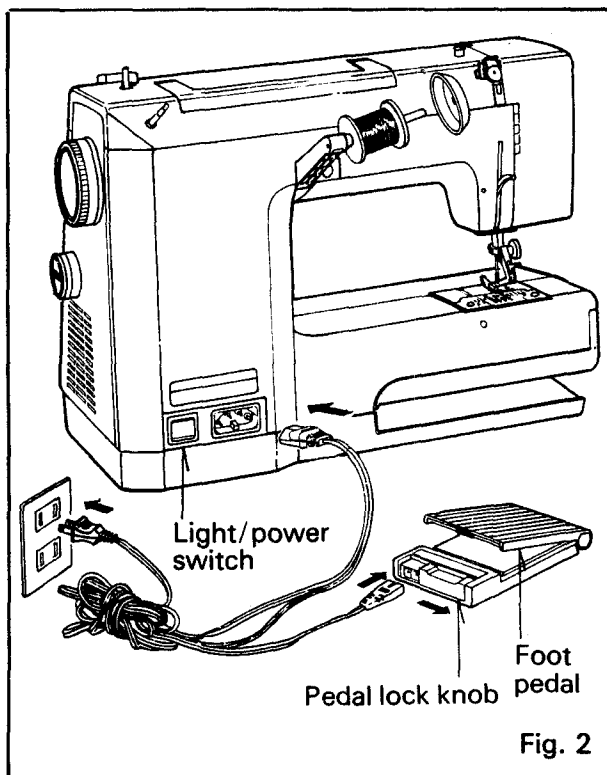

Fig. 2
2. Slide pedal lock knob to the right and the foot pedal will **pop up** to its operating position. Push foot control plug into the cord receptacle on the foot control. (Fig. 2)
3. Push machine plug into the cord receptacle at the rear side of the machine. Then connect power-line plug into any 110-120 volt A.C. wall outlet. (Fig. 2)